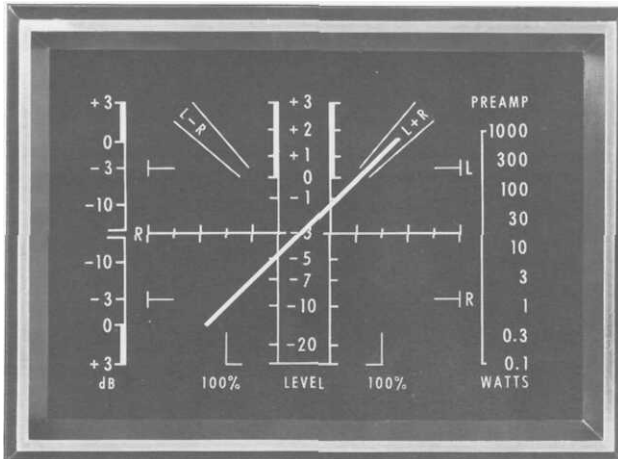

FIG. 9 STEREO DISPLAY OF A MONO SIGNAL
7. Adjust front panel GAIN to obtain a 1- to 2-inch pattern, and re-adjust both top panel AUDIO TRIM controls to obtain a pattern similar to Fig. 9.